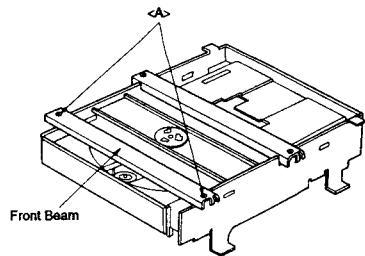

Figure 12
- (1) Remove two screws <A> (3 × 6 mm), then remove the Front Beam as shown in Figure 12.